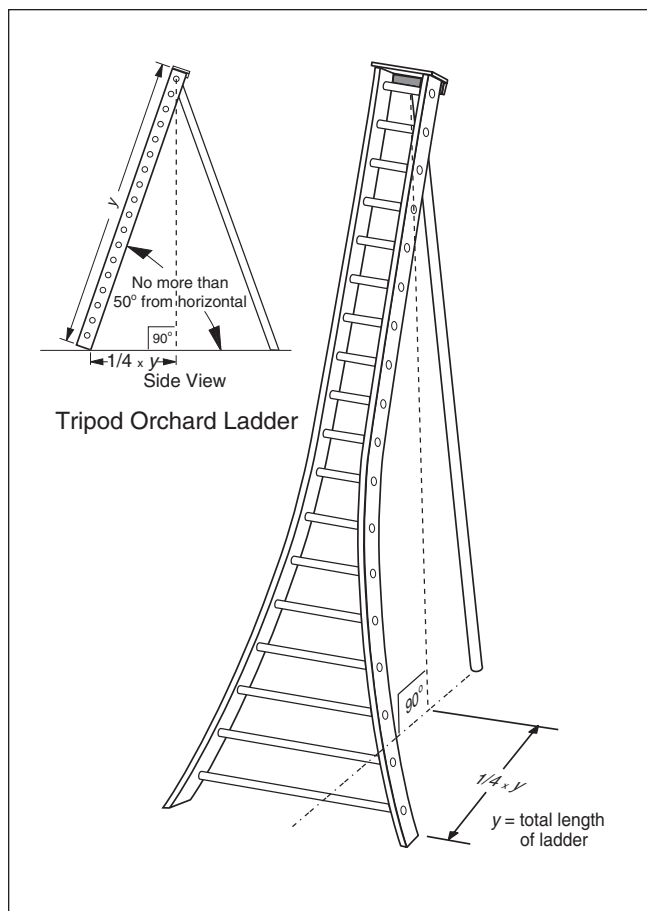

Figure 5d—Tripod orchard ladder.
- C. Incline the ladder at an angle that provides adequate stability (no more than 50 degrees from horizontal). The distance between the foot of the ladder and the point on the ground directly beneath the upper support point should never be less than one-quarter the total length of the ladder (figure 5d).